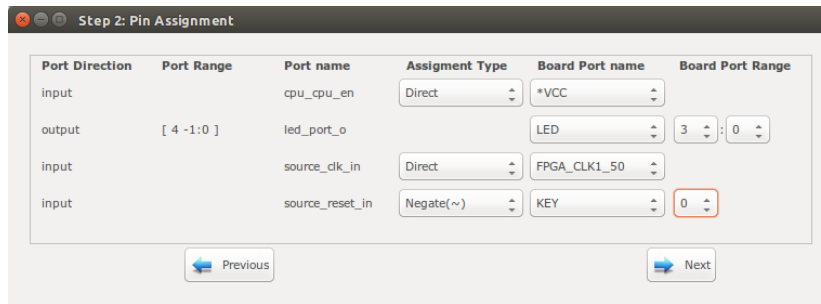

Figure 5.23: SoC pin assignment.
5. Assign your SoC pins to your FPGA boards pins as shown in Figure 5.23.